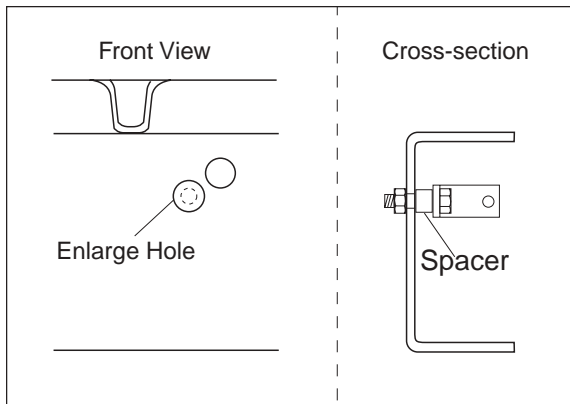

Figure 7
- b. Enlarge the hole just below and slightly forward of the existing attachment. Use a $\frac{3}{8}$ " drill bit to enlarge the hole (Figure 7, front view).
- c. Place the provided spacer (P) on the bracket side of the threads and then reattach the brake line bracket using the original nut (Figure 7, cross-section). This will not compromise the brake line in any way.